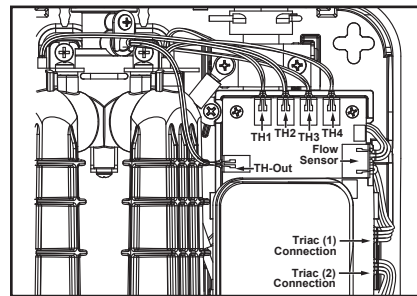

Figure 34 - Sensors control board terminal locations.
**3** With the front cover removed, take a moment to record or photograph how the sensors and triac(s) are installed and which control board terminals the wire harnesses are plugged into. See Figure 34.
Properly reconnect the sensor and triac(s) to the control board, making sure the sensor, triacs, and wire harness connections are connected to the proper control board terminals. See Figures 34 and 35, page 23.